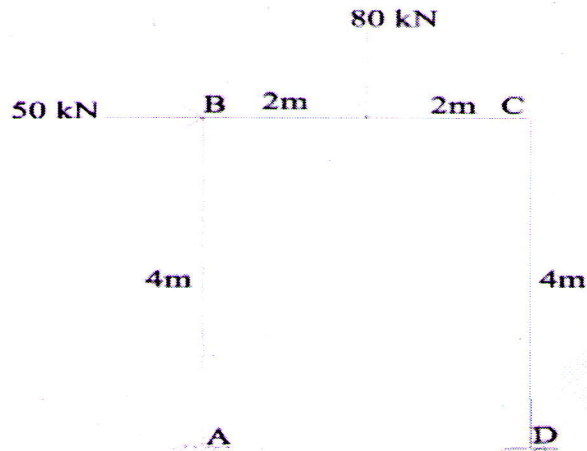

Fig.5
- b) Calculate the plastic moment capacity of the portal frame shown in Fig.5 assuming (12)